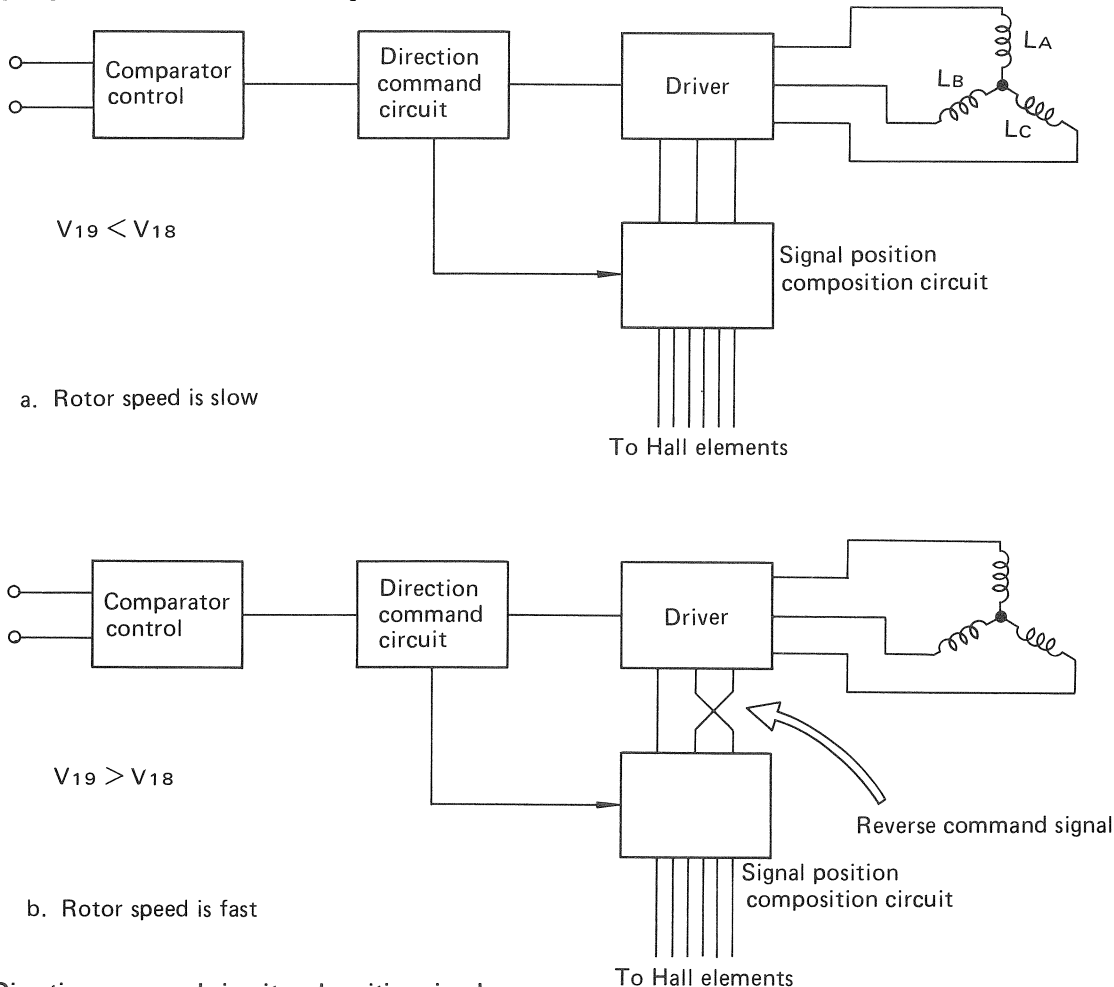

Fig. 21 Direction command circuit and position signal composition
ample, when the rotor speed is slower than the rated speed, the switching sequence is LA – LB – LC. When it is faster, the sequence is changed to LA – LC – LB. As a result, reverse torque is generated (see Fig. 21 and 22).
The reverse rotation prevention circuit is composed of two flipflops (FF) and an AND gate in IC PD 2001. The input for this circuit is derived from the Hall element position direction signals processed in the positional signal synthesizing circuit (see Fig. 21). The output from this circuit is supplied to the direction commander. At forward rotation, input pulses are supplied in the B – A – C sequence, and the direction commander outputs a forward torque signal (the rotor is forced to rotate forward when the output from the direction commander is zero).